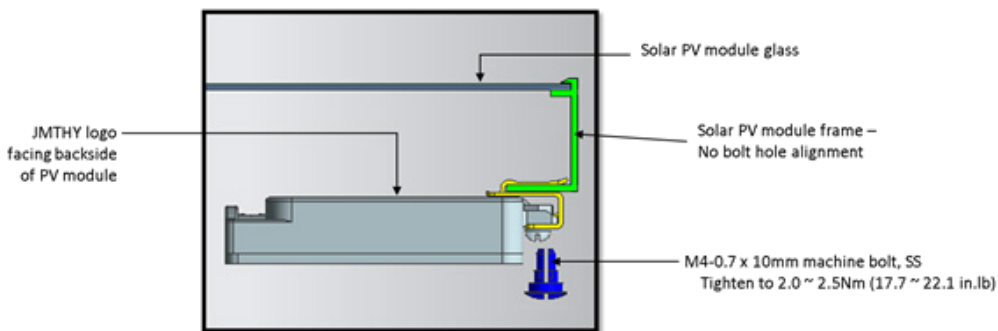

FIGURE 1
1. Orient the JMS-F device so that the JMTHY logo on the plastic cover is facing towards the backside of the solar PV module. See Figure 1 below.